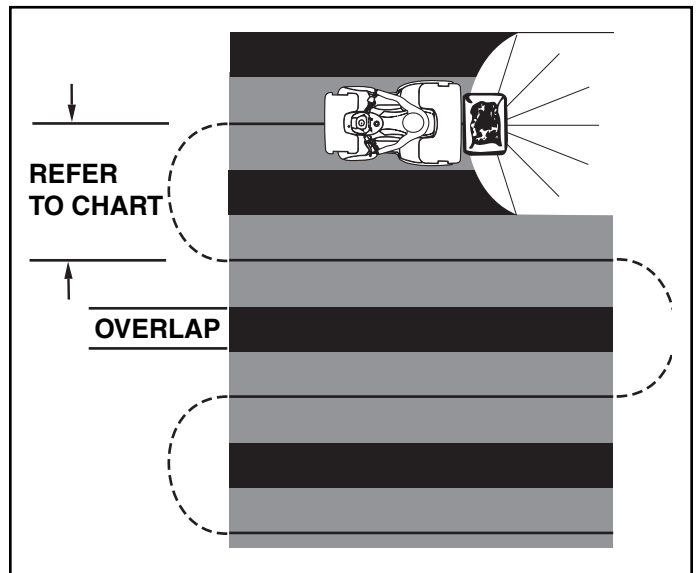

FIGURE 16
9. To insure uniform coverage, make each pass so that the broadcast pattern slightly overlaps the pattern from the previous pass as shown in figure 16. The approximate broadcast widths for different materials are shown in the application chart on this page.